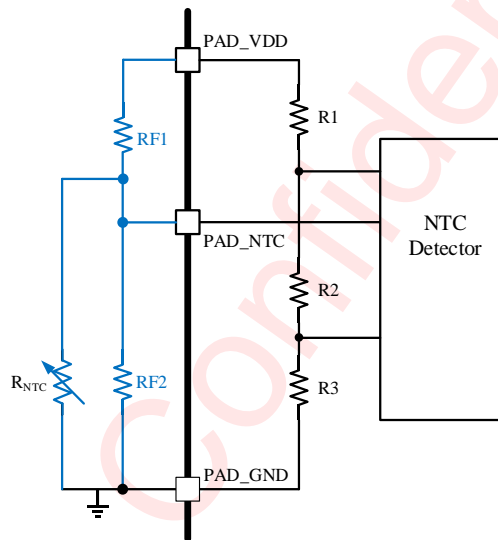

Figure 29 NTC Function(resistor-divided mode)
NTC pin is connected to the thermistor paralleled with a resistor  $R_{F2}$  to ground. Another resistor  $R_{F1}$  is connected to the VDD which is the chip's internal power supply voltage. The high temperature limit and low temperature limit can be varied by using different  $R_{F1}$  and  $R_{F2}$ . Illustrated in Figure 29, the off chip resistors must be connected as the blue part demonstrated. The resistance of  $R_{F1}$  and  $R_{F2}$  can be calculated by Equation (1) and Equation (2):